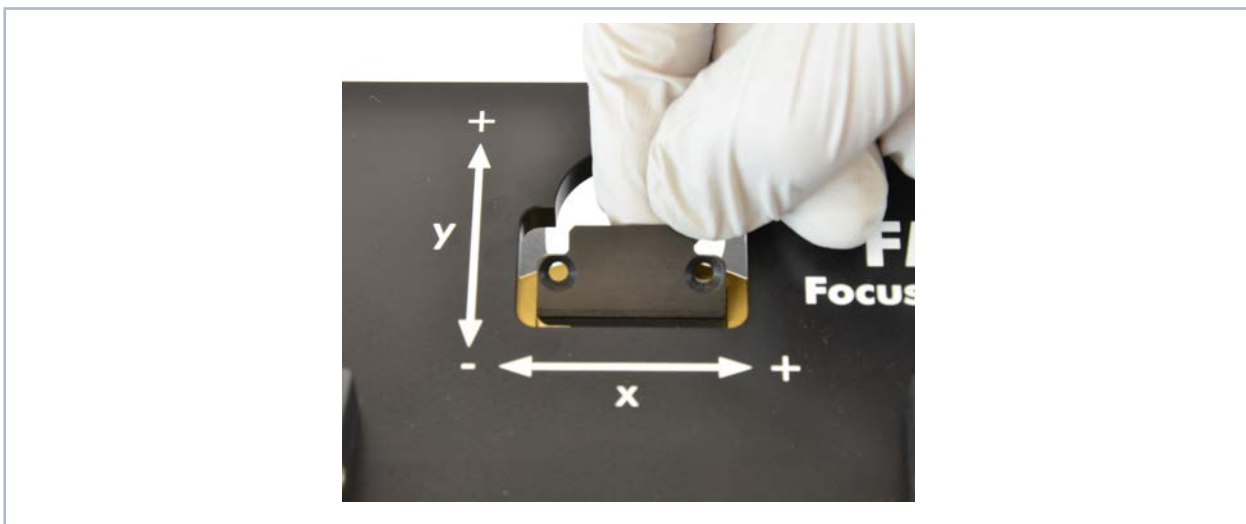

Fig. 13.4: Inserting the retaining plate
6. Insert the retaining plate in the disc with the guidance groove pointing upwards and an angle of 45 degrees and press it downwards into the opening (see Fig. 13.4).